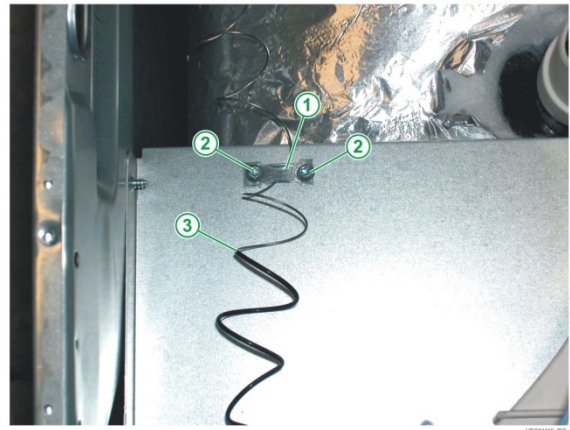

Fig. 6
- the 2 fixing screws of the capillary on the oven thermostat (see Fig. 6).